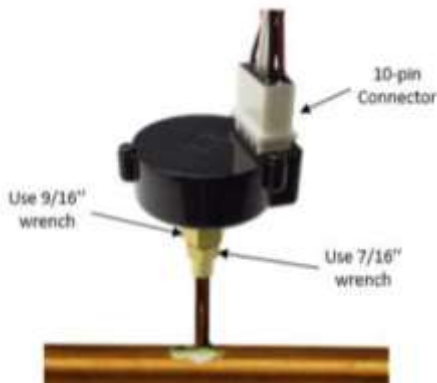

Figure 15 - Installed USHX with attached 10-pin wiring harness
8. Mount the USHX onto the access fitting. Turn the USHX housing clockwise by hand until some resistance is met and then use 7/16" and 9/16" wrenches in tandem as shown below in Figure 15 to further tighten the USHX connection. This will ensure that the brazed joint is not damaged by the torque of the tightening.
9. Attach the wiring harness (10-pin connector) to the USHX as shown below in Figure 15.